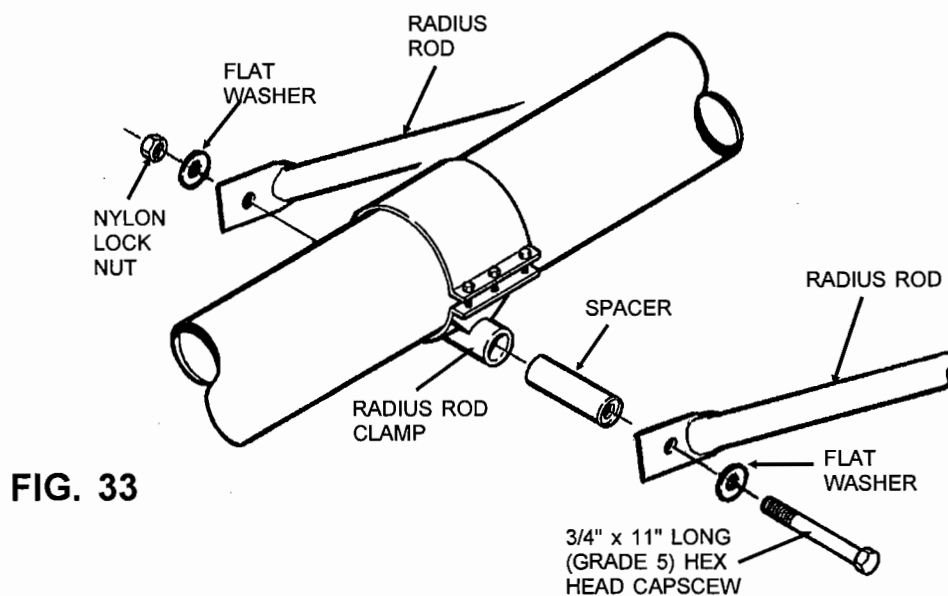

FIG. 33
Step 28. Insert the pivot pipe spacer into the pipe on the radius rod clamp. Then, insert a 3/4" x 11" long (grade 5) hex head capscrew through a flat washer, one radius rod, a spacer and then the other radius rod and another flat washer and a nylon locknut. See Fig. 33.